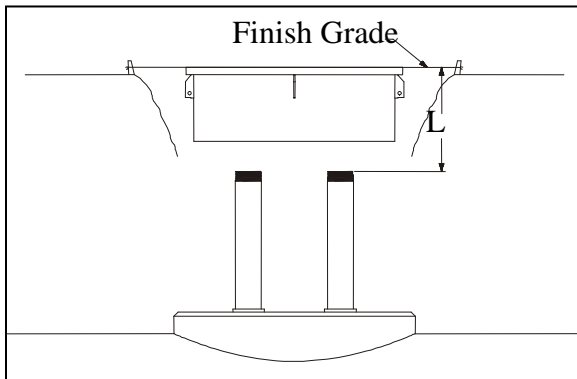

Figure 2
2. Set multi-port manhole assembly (skirt, ring, and cover) to the final grade position. (See Figure 2.)
Note: Add an extra 3-1/4" when using an OPW FSA-400 & add an extra 1 3/4" when using the FSA-400S Face Seal Adaptor. (See Figure 2.) (Offset add extra 6")